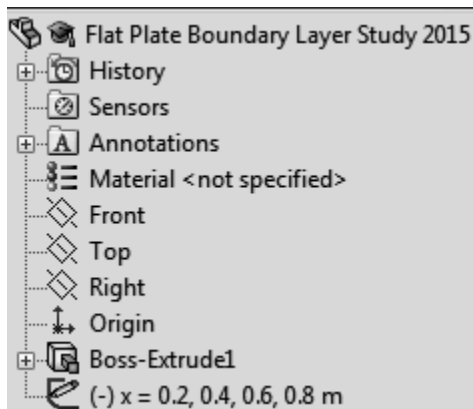

Figure 2.8 Renaming the sketch for boundary layer velocity profiles
8. Repeat step 7 three more times and add three more vertical lines to the sketch: the second line at $X = 400$ mm with a length of 40 mm, the third line at $X = 600$ mm with a length of 60 mm and the fourth line at $X = 800$ mm with a length of 80 mm. These lines will be used to plot the boundary layer velocity profiles at different streamwise positions along the flat plate. Close the **Line Properties** dialog  and the **Insert Line** dialog. Save the SOLIDWORKS part with the following name: **Flat Plate Boundary Layer Study 2015**. Rename the newly created sketch in the **FeatureManager design tree**; see figure 2.8. Click on the **Rebuild** symbol  in the SOLIDWORKS menu.